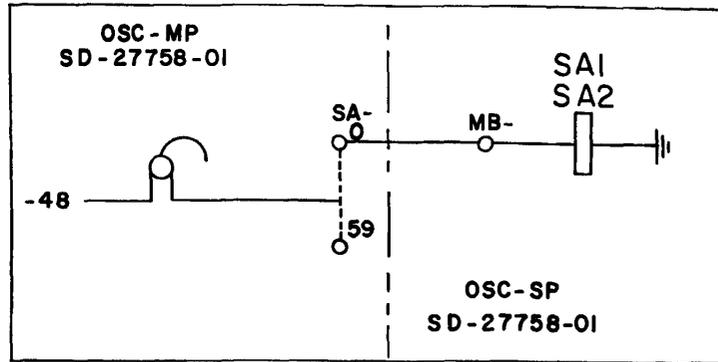

FIG. 6
5.62 Using a R-9572 test receiver, apply battery to T.S. S, terminal SA0. Verify at the outgoing sender frame the associated senders SA1, 2 relays operate. (See Fig. 6)